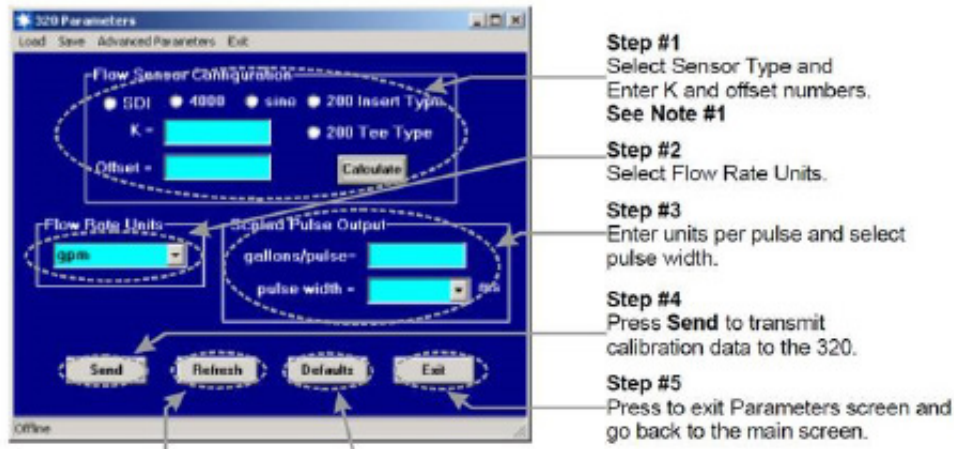

Figure 7: Program using the diagram as reference
6. Program using the diagram in Figure 7 as a reference.